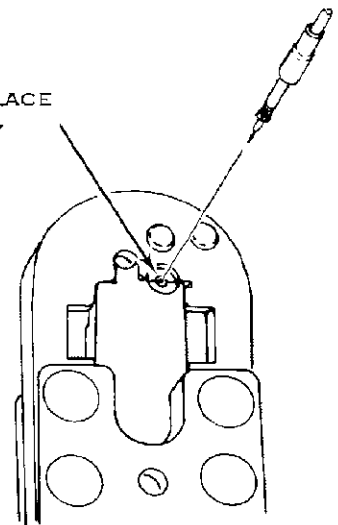

FIG. 6
- Close Tool Handles just enough to hold Contact in place without deforming Wire Barrel. See Figure 6.